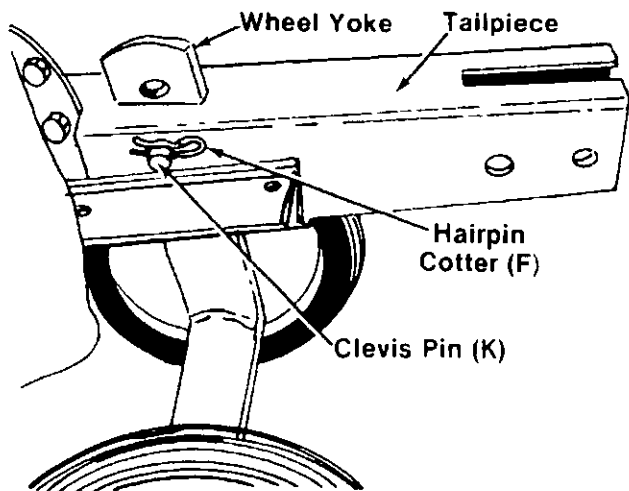

FIGURE 6.
6. Place the end of the wheel yoke up through the rectangular hole in the tailpiece. Secure with clevis pin (K) and hairpin cotter (F). See figure 6.